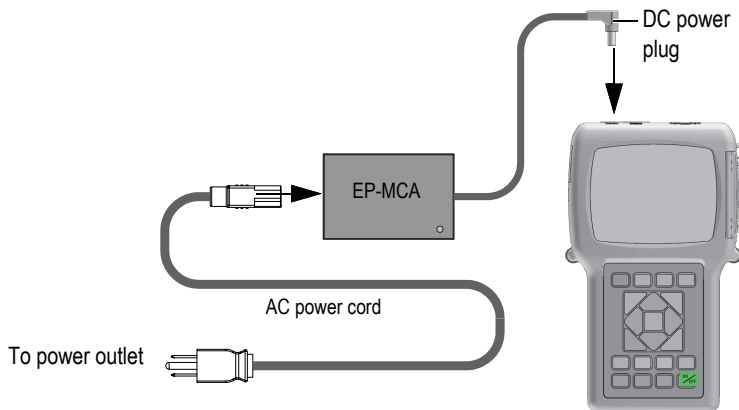

Figure 2-2 Connecting the charger/adaptor
1. Connect the AC power cord to the charger/adaptor (P/N: EP-MCA [U8767042]), and to an appropriate power outlet (see Figure 2-2 on page 48).